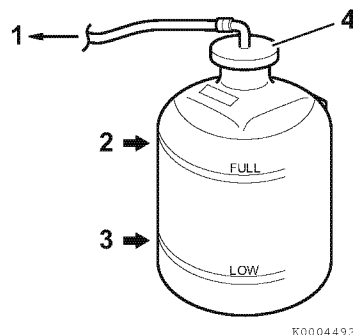

Figure 15
(Figure 15, (2)). Add coolant if
6. Remove reservoir cap **(Figure 15, (4))**
8. Check the rubber hose **(Figure 15, (1))**